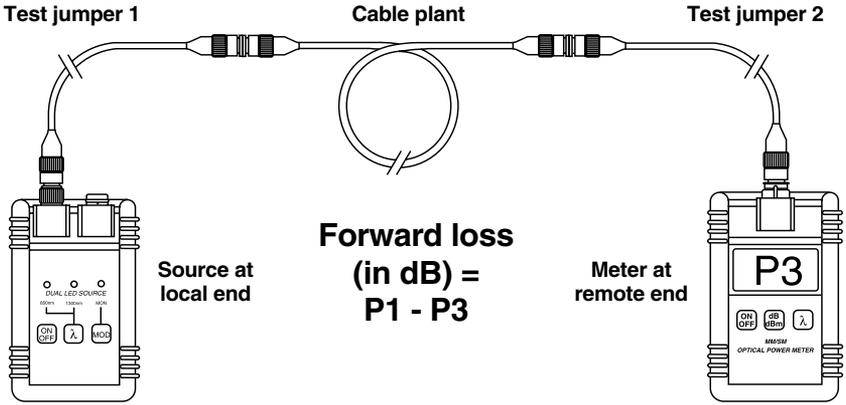

Figure 5-5. Forward link connection.
2. Connect the source at the local end of the link and the meter at the remote end to their respective patch-panel ports using the test jumpers, as shown in Figure 5-5.
3. Using the formula shown in Figure 5-5, subtract the dBm reading on the meter ("P3") from the nominal local source-output value ("P1") you measured in step 1. For example, if the meter reads -18 dBm and you got -12 dBm in step 1, the forward link loss would be $-12 - (-18) = 6$ dB.